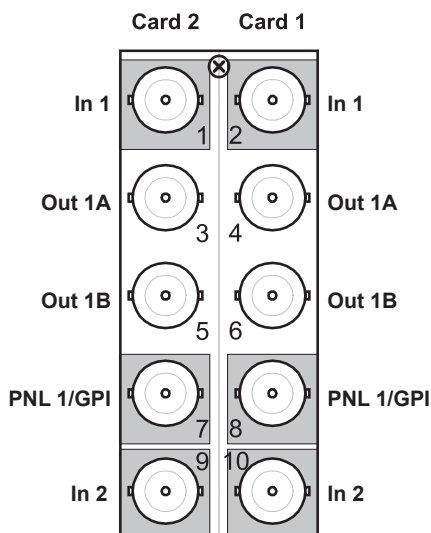

Figure 2.3 Cable Connections for the **R2S-8224** Rear Module
- **8320AR-031** (R2S-8224) Split Rear Module — Each card occupies one slot and provides two inputs, two outputs, and a GPI connection. (**Figure 2.3**)